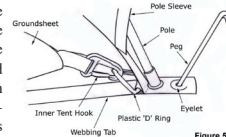

Figure 5
6. Gather up the inner tent, ensuring its doors are closed, and take it inside the flysheet. Start at the rear edge of the inner and clip the hooks that are on the corners of the groundsheet to the "D" rings located on the edge of the flysheet (see figure 5).